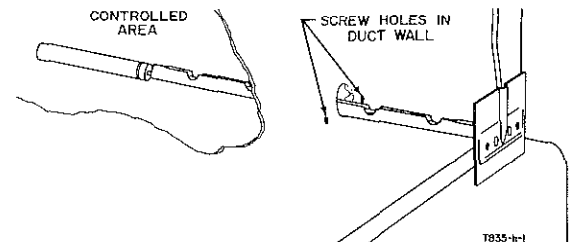

Fig. 4—Insertion into duct.
2. Using the holder as a template, mark and drill holes for bulb holder mounting screws (see Fig. 4).